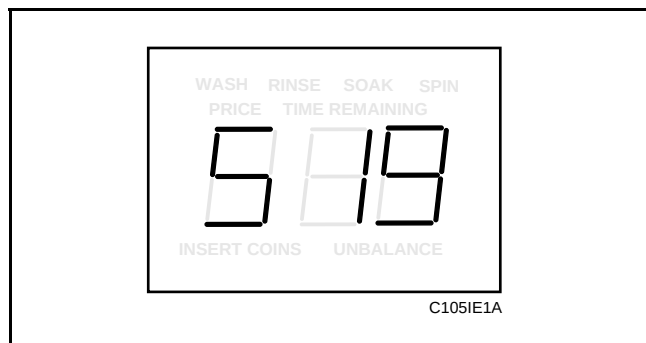

Figure 94
2. While pressing and holding the PERM PRESS keypad with one hand, press the COLD keypad with the other hand. Programmable option number one, “Slg”, will appear in the VFD. See **Figure 94**.